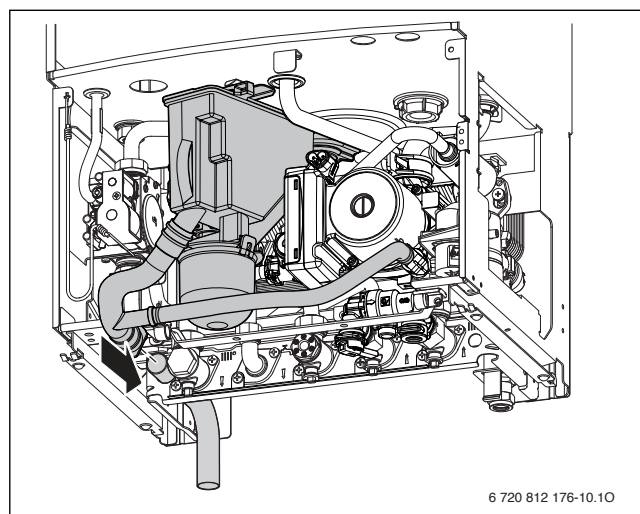

Fig. 40 Condensate connection
- ▶ Refer to figure 40, condensate connection: